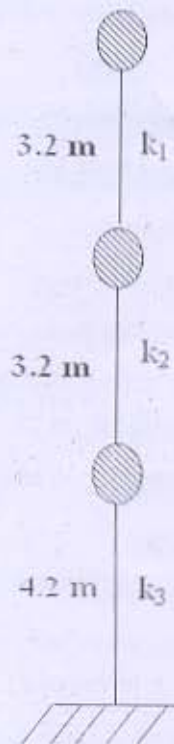

Figure 2
1. For the residential RCC (SMRF) building shown in **Figure 2** founded on soft soil and situated in zone V shown in figure. Compute the design lateral force at each floor in each mode using dynamic analysis procedure. Given the free vibration analysis results as follows,